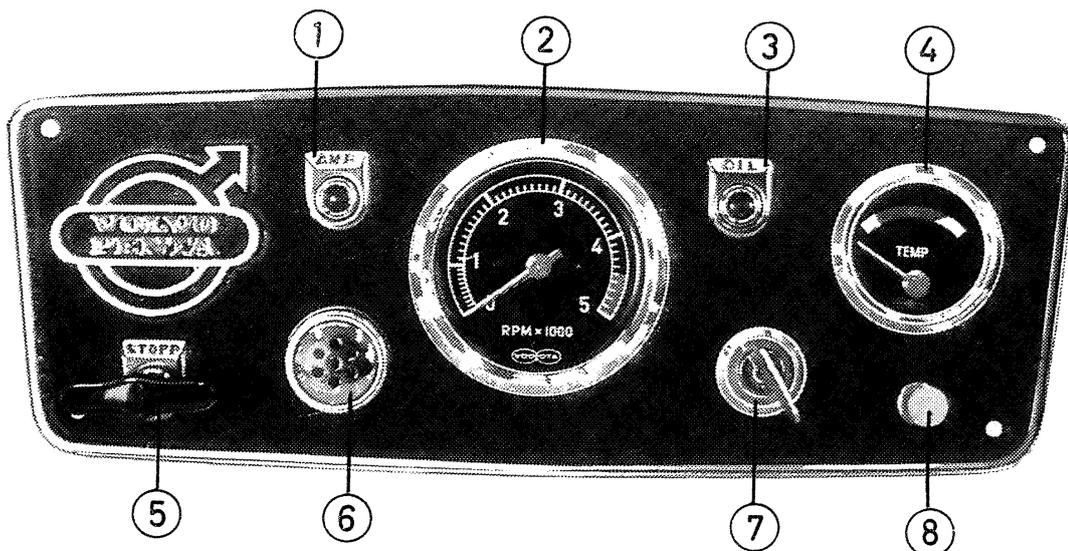
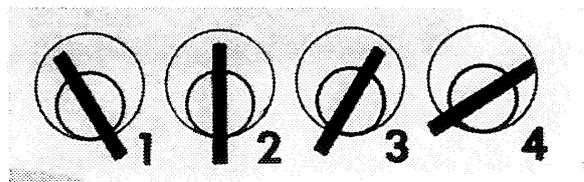

Fig. 3. Instrument panel (See explanation of figures on next page)
Fig. 4. Key switch
(The figures refer to Fig. 3)
- Starting position. When the control resistance (6, Fig. 3) starts to glow, the key is pushed inwards and turned to position (4, Fig. 4), at which the starter motor is engaged. As soon as the engine has started, release the key which then automatically returns to the running position.
3. Turn the starting key to position 2, running position, see Fig. 4. Check that the charging control lamp and oil pressure warning lamp light up.
4. Turn the starting key to position 3 and keep it in this position until the control resistance (6, Fig. 3) glows. The time required for preheating varies with the engine temperature but is normally 40–60 seconds. When starting a warm engine, no preheating is required.